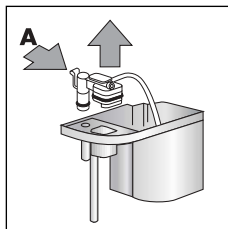
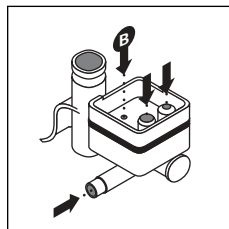

fig. 22
fig. 23
- Remove the red frother by pressing on the clip (A) and at the same time pulling upwards (fig. 22). Remove the rubber mixer, wash and clean with hot water, particularly the four holes indicated in figure 23 (use a needle). Make sure the hole indicated with the arrow B is not blocked.